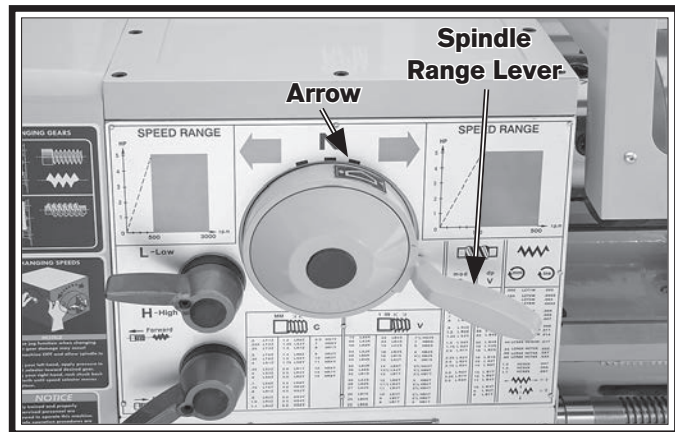

Figure 10. Low spindle speed range selected.
7. Move the spindle speed range lever so the arrow on the hub points to the right (see **Figure 10**). This will make the lower spindle speed range available.